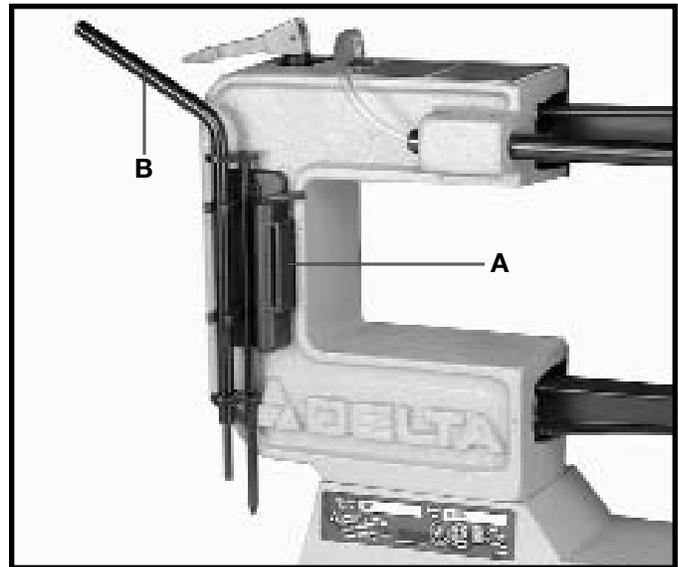

Fig. 13
A convenient wrench and blade holder (A) Fig. 13, is supplied on the left side of the rear casting, which allows you to store the quickset blade changing wrench (B) and extra scroll saw blades when not in use.